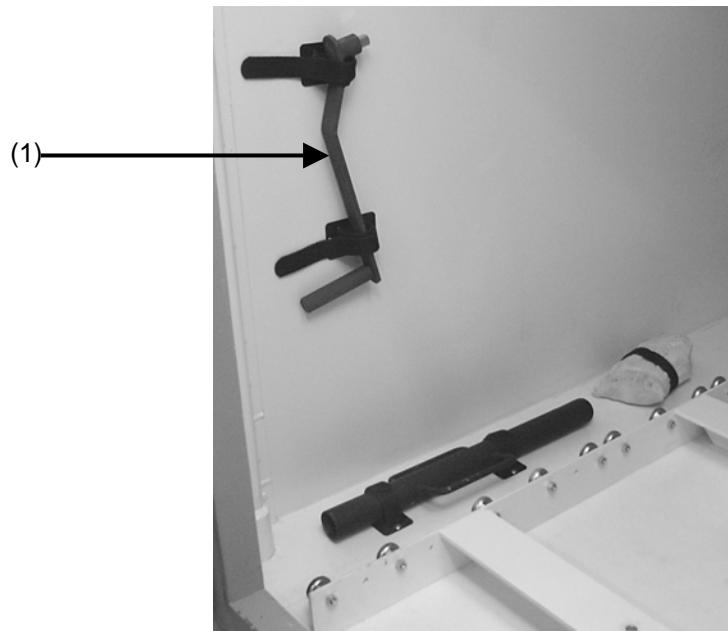

Figure 2-12. Inside view of mechanical room.
- a. Obtain jack handle (1) stored on inside wall of mechanical room (Fig. 2-12).